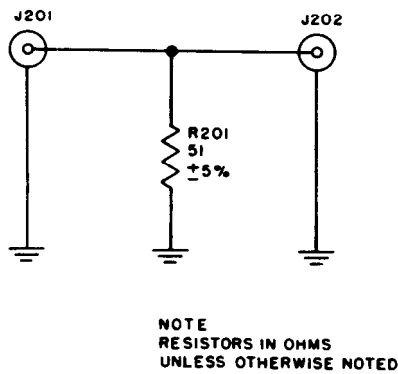

Figure 2-15. Impedance Matching Unit CU-406/URM-25F Simplified Schematic
12. IMPEDANCE MATCHING NETWORK CU-406/URM-25F. (See figure 2-15.)